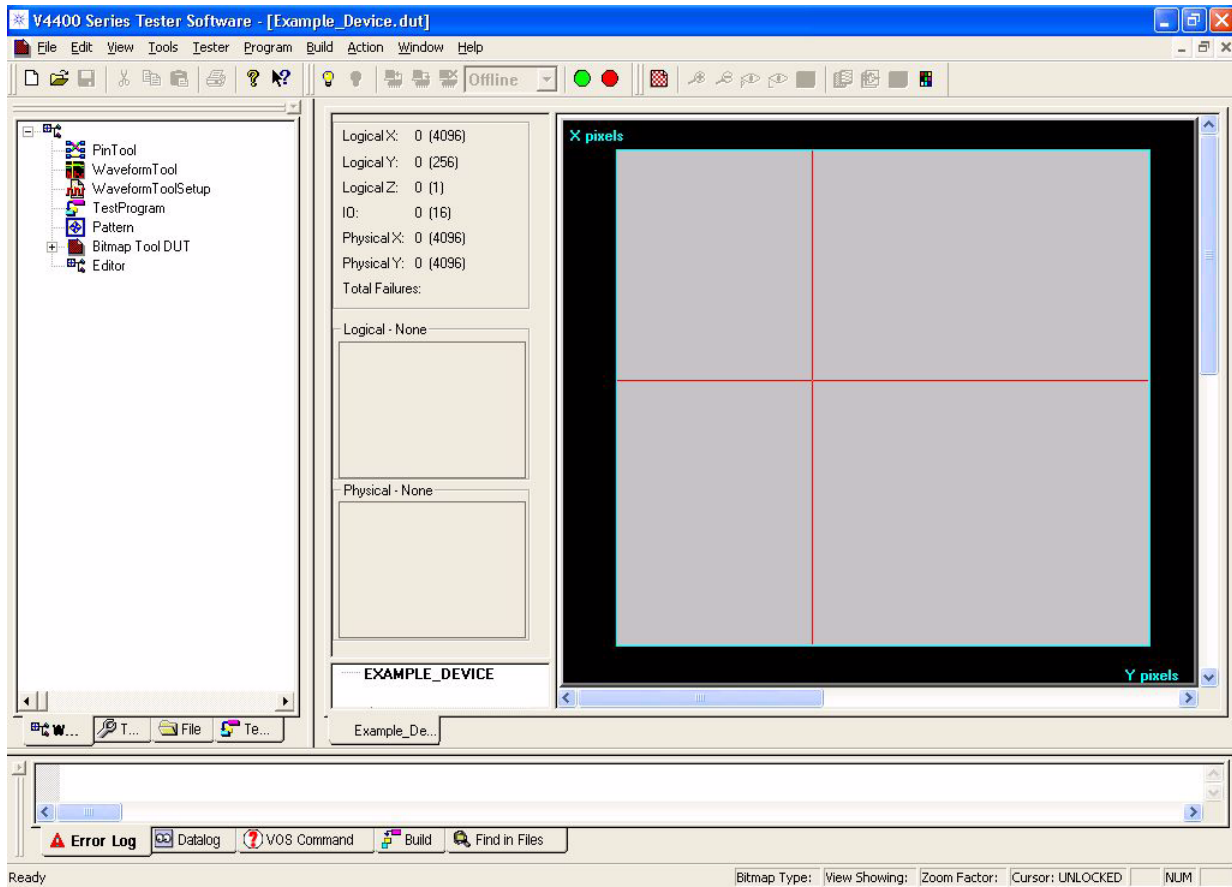

Figure 8-63. Bitmap Tool Main Window with DUT File Loaded
- 2 Selecting a .dut file and then the  button displays the IDE main window with the DUT file loaded (Figure 8-63).